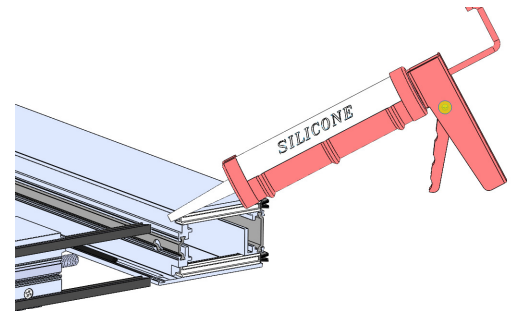

Figure 10:
- Apply sealant to the top and bottom rail where they make contact with the vertical stiles (Figure 10).